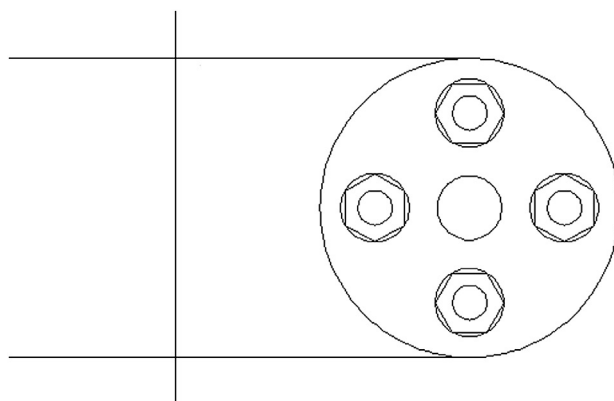

FIGURE 8.27
- Step 7.** You now have to project the main body of the part based on this top view. The best way is by drawing two horizontal guidelines, of any length, starting from the top and bottom quadrants of the big circle; then draw an arbitrary vertical line to mark the beginning of the part on the right, as shown in Figure 8.27.